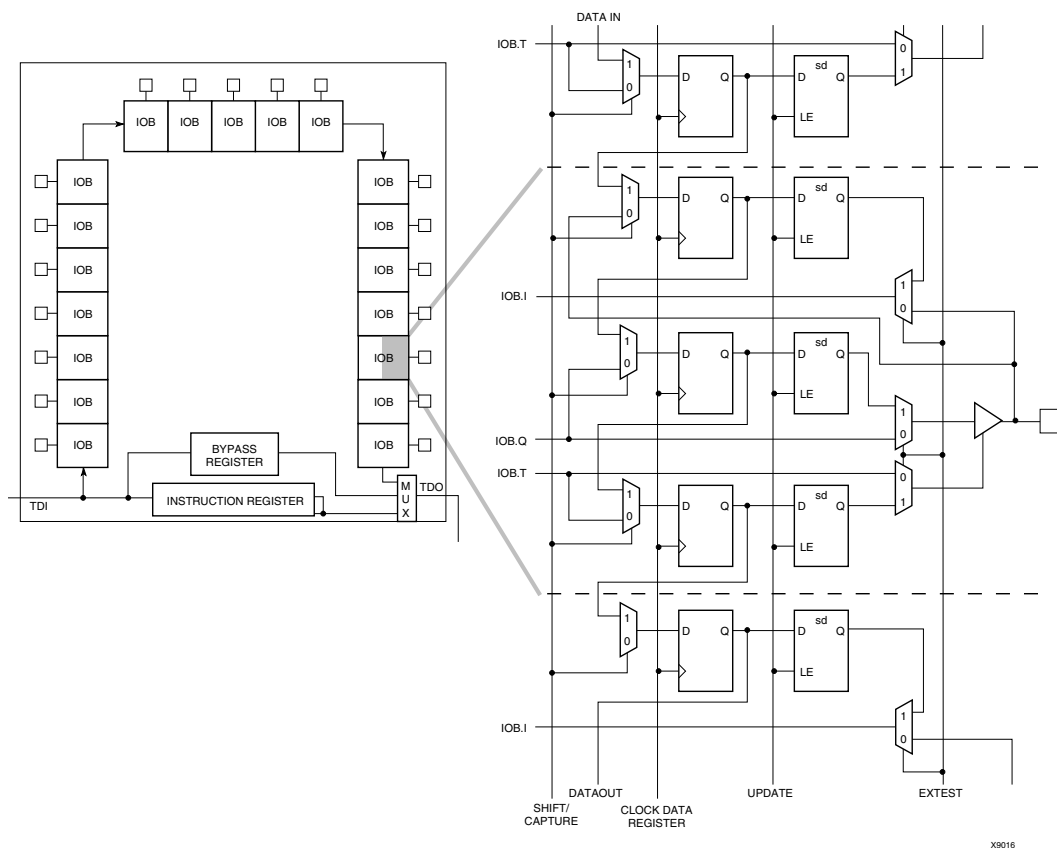

**Figure 11: Virtex-E Family Boundary Scan Logic**
**Figure 11** is a diagram of the Virtex-E Series boundary scan logic. It includes three bits of Data Register per IOB, the IEEE 1149.1 Test Access Port controller, and the Instruction Register with decodes.